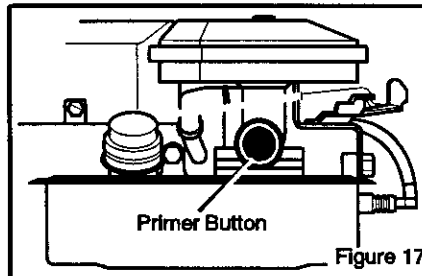

Figure 17
5. The primer button is on the side of the engine (Figure 17). Push the primer button. Every time you push the primer button, wait two seconds. For the number of times required to push the primer button, see the engine manufacturer's instructions.